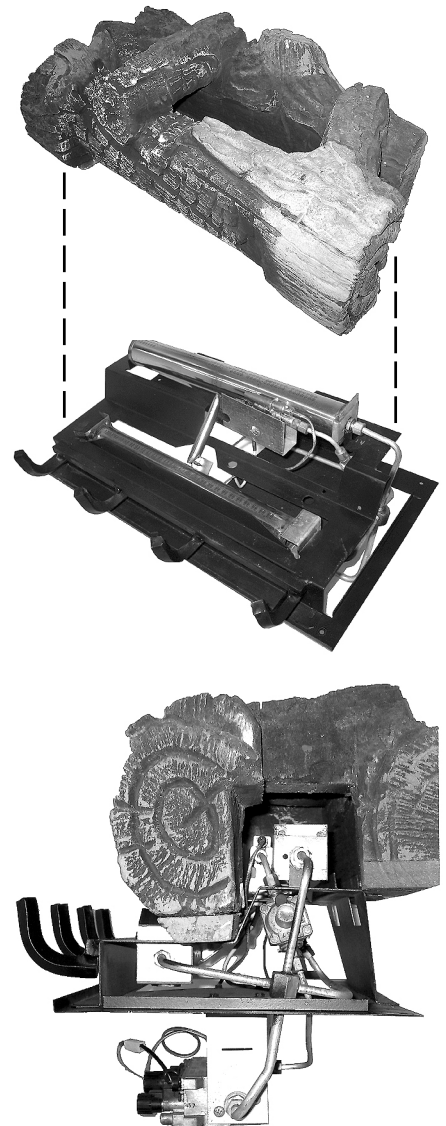

Figure 14
Step 12. The heater includes a unitized set of ceramic fiber logs. The heater and logs are assembled as shown in Figure 14. Handle these logs with great care. The logs can be easily damaged, but when handled properly they can provide years of performance and enjoyment.